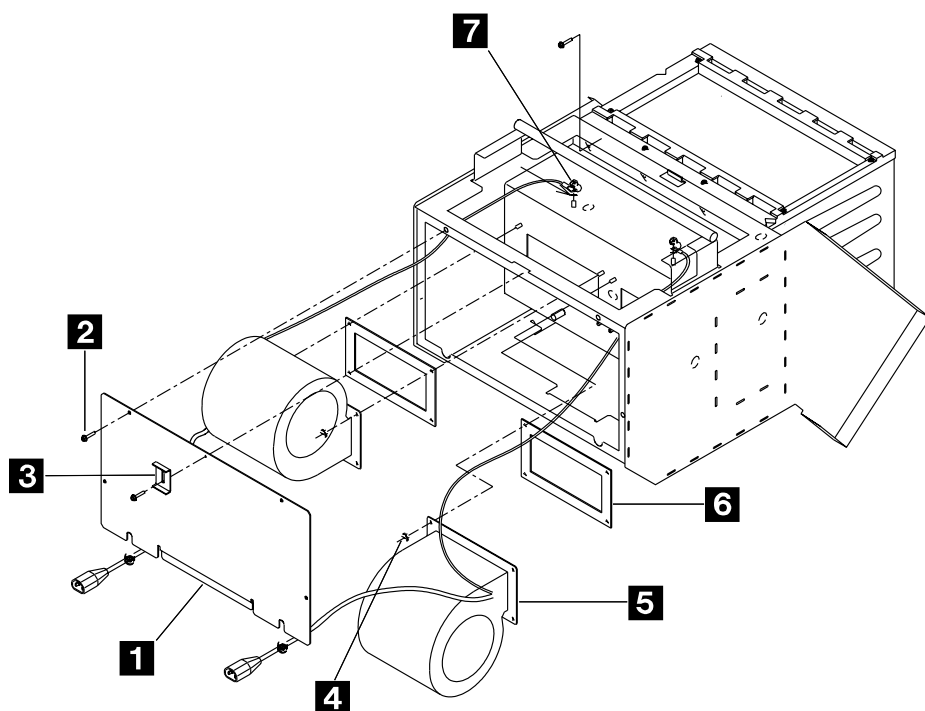

Figure 4-72. Air Moving Devices Removal
3. Refer to Figure 4-72. Remove the screw which maintains the bracket **3**. You can now remove the upper filter by sliding it down.